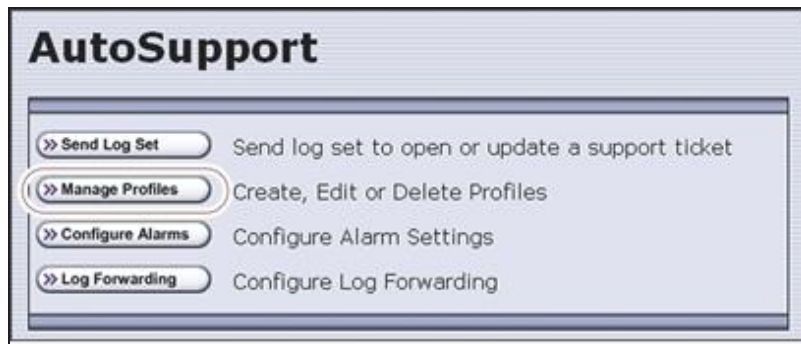

Figure 198 Click **Manage Profiles** to create or edit an AutoSupport profile.
If one of the profiles is configured as an AutoSend recipient, the **Configure Alarms** button is active (see Figure 198 on page 367).
2. From the toolbar menu, select **Maintenance > AutoSupport**. The AutoSupport screen displays (see Figure 198 on page 367).